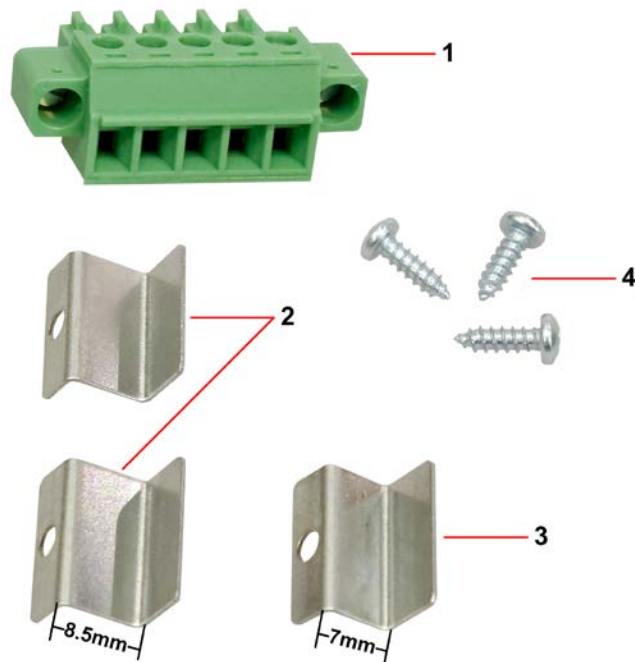
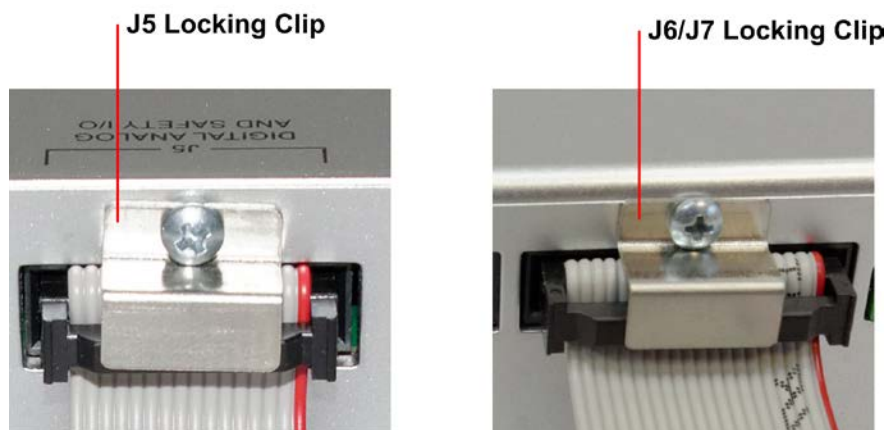

Figure 6. Drive Supply Mating Connector and Locking Clips Kit
Figure 7. Connector Locking Clips
***Note:** The two types of clips are similar. Make sure to use the proper one for each connector. The difference between the two types is shown in Figure 6 and Figure 7.